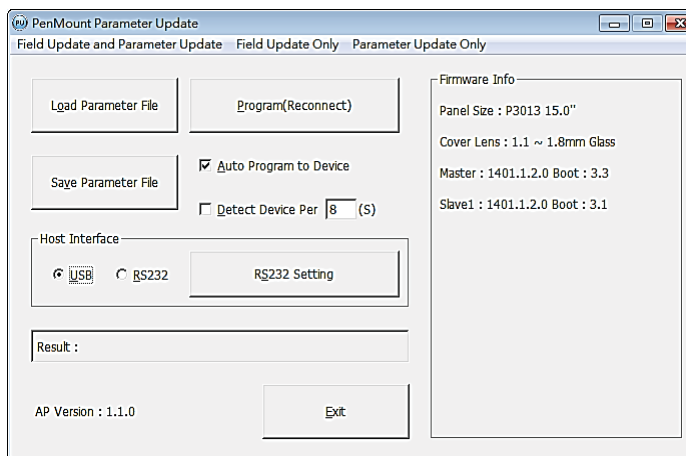

Fig.45
- Parameter Update Only: User can modify or save controller parameter settings. (Fig.45)